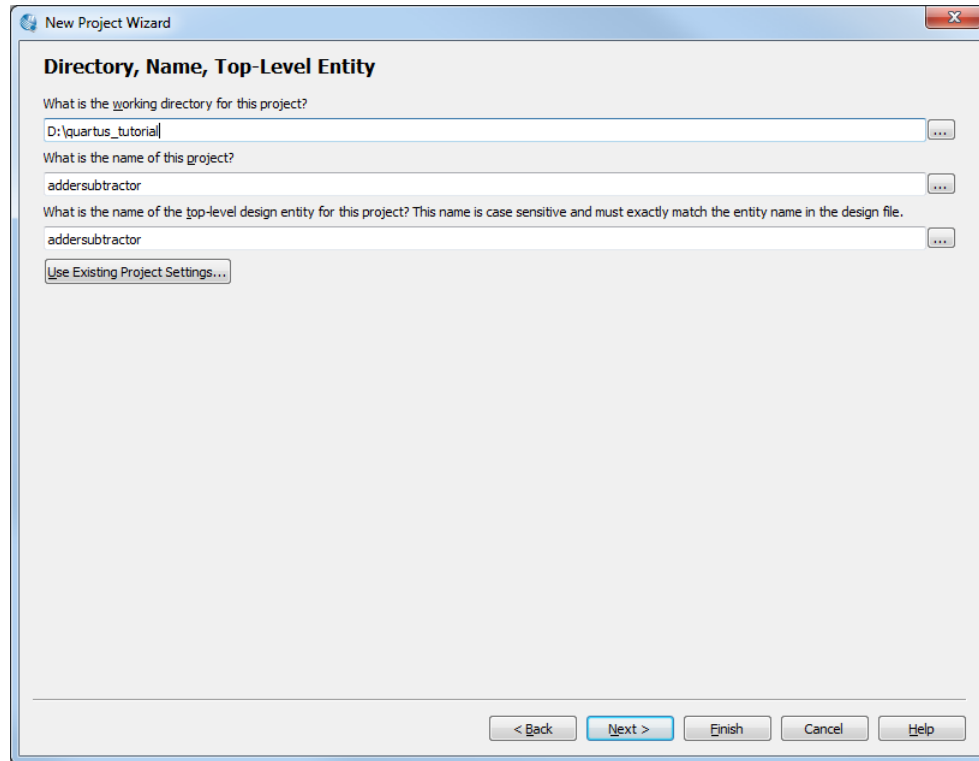
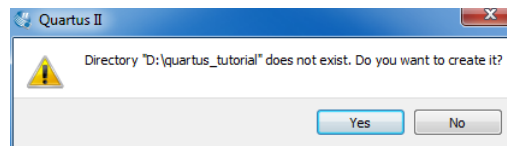
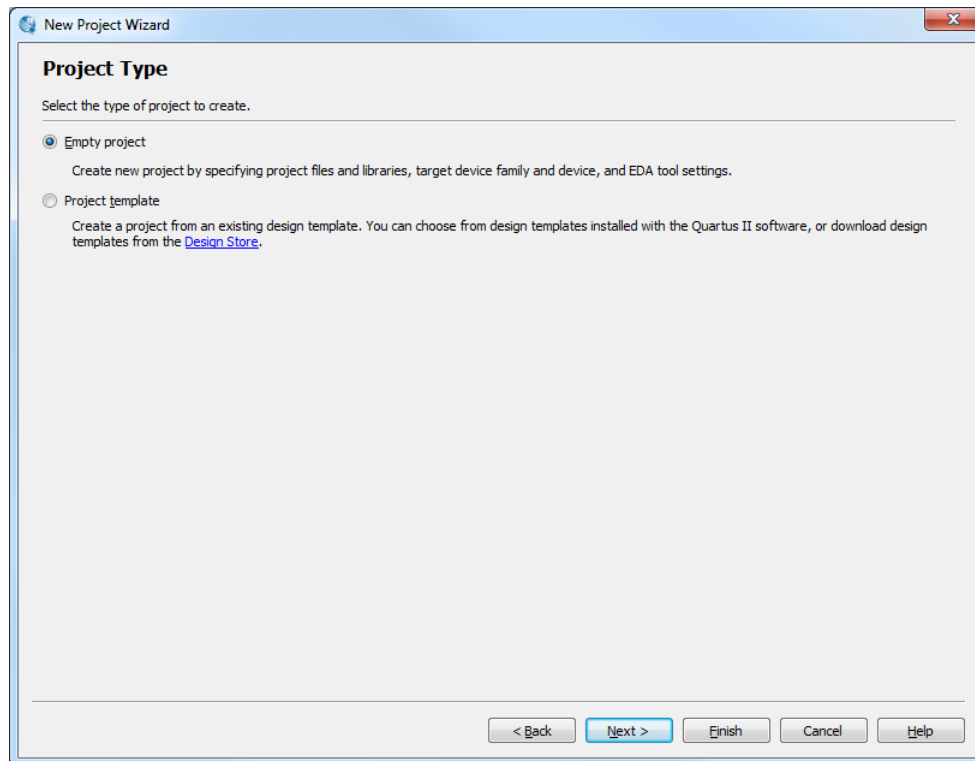
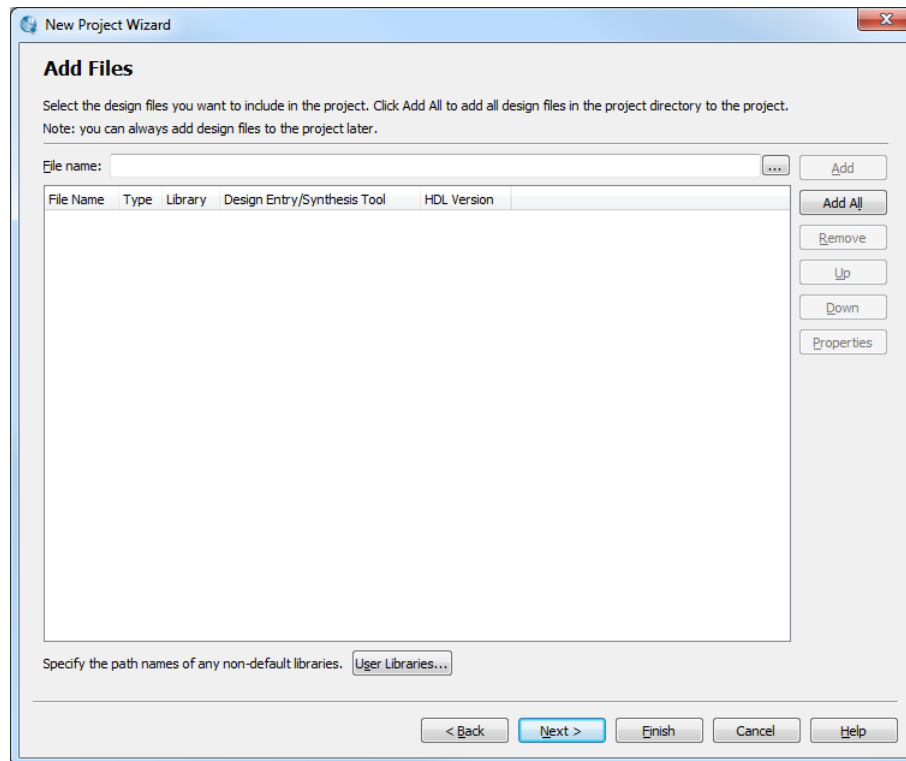

Figure 4: Creation of a new project.
Figure 5: The Quartus® II software can create a new directory for the project.
Figure 6: Choosing the project type.
Figure 7: The wizard can include user-specified design files.
1. Select File > New Project Wizard to reach a window that indicates the capability of this wizard. Press Next. This will bring up the wizard screen as shown in Figure 4.
2. Set the working directory to be *quartus_tutorial*; of course, you can use a directory name of your choice. The project must have a name, which is usually the same as the top-level design entity that will be included in the project. Choose *addersubtractor* as the name for both the project and the top-level entity, as shown in Figure 4. Press Next. Since we have not yet created the directory *quartus_tutorial*, the Quartus® II software displays the pop-up box in Figure 5 asking if it should create the desired directory. Click Yes, which leads to the window in Figure 6.
3. The Project Type window, shown in Figure 6, allows you to choose from the Empty project and the Project template options. For this tutorial, choose Empty project as we will be creating a project from scratch, and press Next which leads to the window in Figure 7.